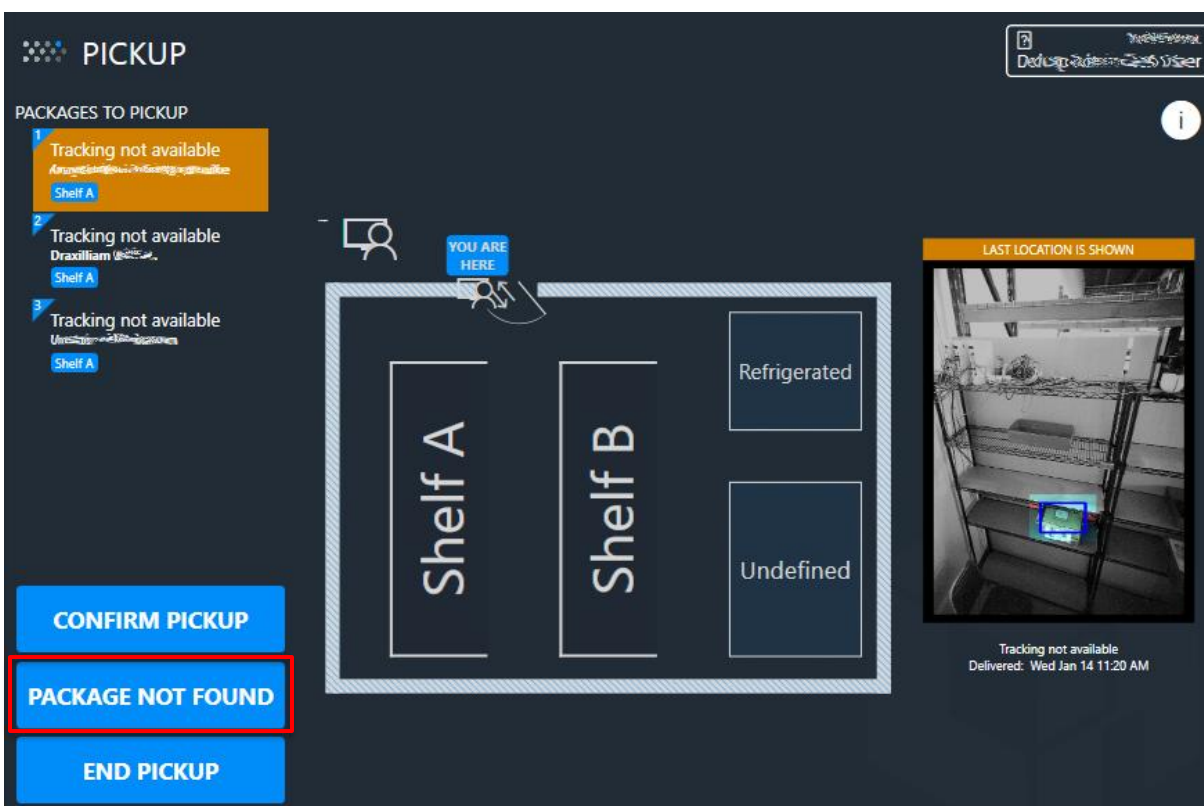

Figure 58: Package to pick up with issue
The Room Map opens displaying where the package is or where the last location of the package was. Indicated by the blue box. See Figure 58.
5. If the package is not in the room, tap **Package Not Found** to remove the package from the system. See Figure 58.